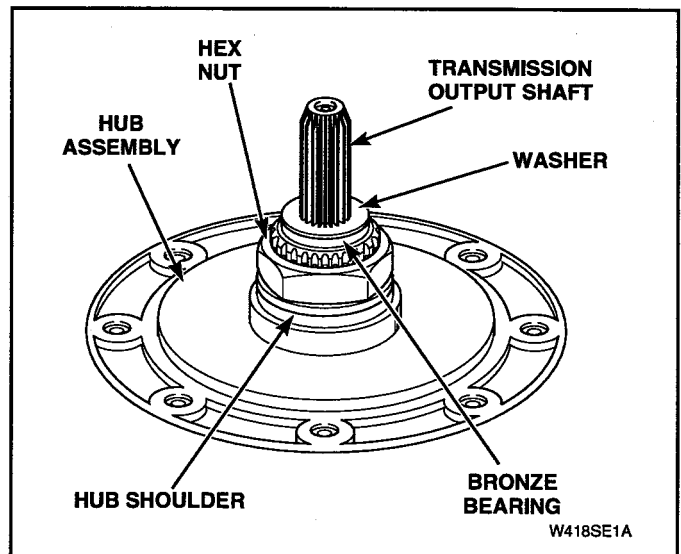

Figure 5-33
- j. Remove large hex nut using a No. 306P4 Hex Wrench. See Figure 5-33.